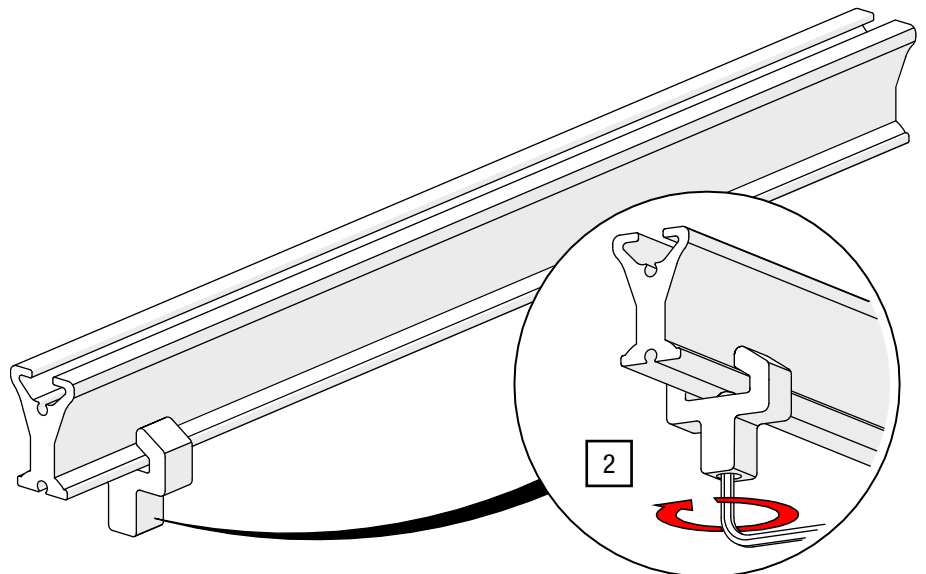

Fig. 50: Variable end stop – Tighten grub screw
2. Tighten the grub screw using an Allen key AF 2 to 3 Nm (see Fig. 50).